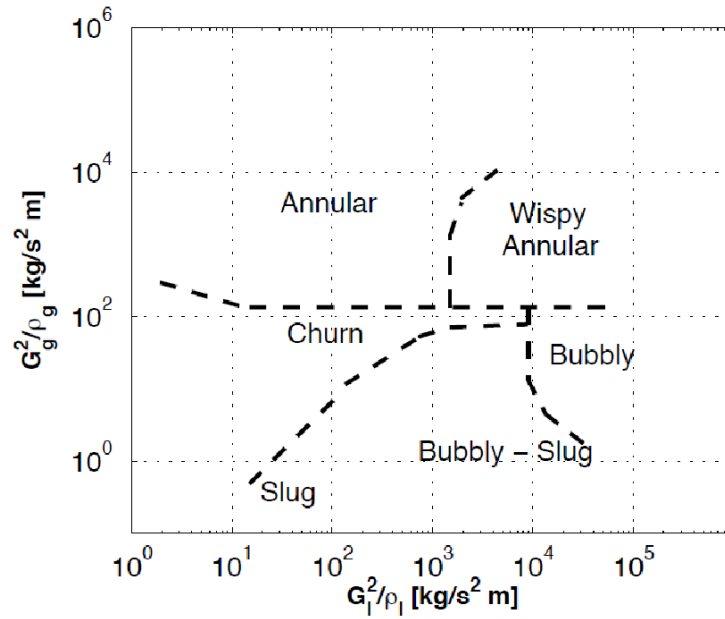

Figure 11: Flow pattern map of Hewitt and Roberts (1969) for upward, concurrent vertical flow (image source: internet)
Now how to predict flow regimes? Under given conditions how do we predict which flow regime will occur so, for that there are flow regime maps. Many researchers have done experiments and they have developed flow regime maps as we have discussed before there are many parameters which determined flow regimes. But if we have to draw a map on a paper, then only two parameters can be chosen. So, different researchers have chosen different parameters which they consider to be important. For vertical flow, there is a very popular flow pattern map of Hewitt and Roberts (figure 11) as shown by equation (1).
So, in figure 11, $\rho_L j_L^2$ is on the horizontal axis and $\rho_G j_G^2$ is on the vertical axis and we locate the point and then based on that we can predict which flow pattern will occur depending on the location of the point. Note that both scales are logarithmic, the horizontal scale and vertical scale both are logarithmic.